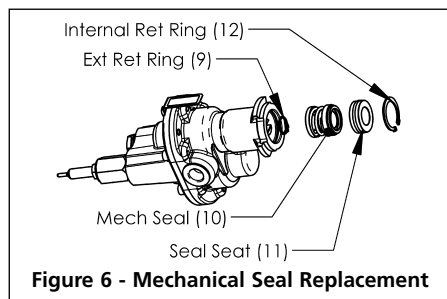

Figure 6 - Mechanical Seal Replacement
**Mechanical Seal Replacement** (Refer to Figures 6 & 7 for parts identification.)